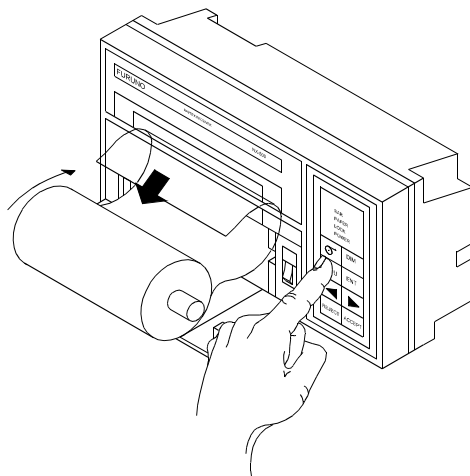

Figure 6. Paper Feed
3. Insert the paper into the paper insertion slot just above the paper container and press the feed key (figure 1, item 4) until the paper extends from the front of the feeder (figure 6).